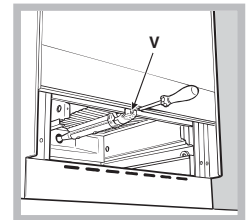

Fig. 3
3. Remove the oven burner after unscrewing the screws V (see figure 3). The whole operation will be made easier if the oven door is removed.